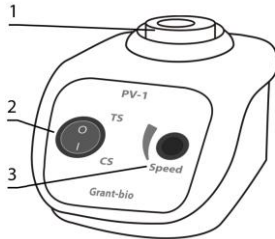

Figure 1. PV-1, front view
- 5.1.2. Gently holding a tube by its upper part, press the lower part to the vortex head (fig. 1/1). During rotation of the rotor, control the intensity of shaking by varying applied pressure.
- 5.1.4. Turn the **TS/CS** switch (fig. 1/2) to position **CS**.
- 5.1.5. Set the required speed by turning the **Speed** knob (fig. 1/3).
- 5.1.8. Turn the **TS/CS** switch (fig. 1/2) to position **TS**.
- 5.1.9. Set the required speed by turning the **Speed** knob (fig. 1/3).
- 5.1.10. Push the tube on the vortex head (fig. 1/1) and hold for vortexing. Rotor stops when the tube is raised.
5.2.5. Turn the **QS/CS** switch (fig. 1/4) to position **CS**.
5.2.6. Set the required speed by turning the **Speed** knob (fig. 1/6).
5.2.9. Turn the **QS/CS** switch (fig. 1/4) to position **QS**.
5.2.10. Set the required speed by turning the **Speed** knob (fig. 1/6).
5.2.11. Position the tube on the vortex head, press and hold **QS** button (fig. 1/5) for vortexing. Rotor stops when the button is released.